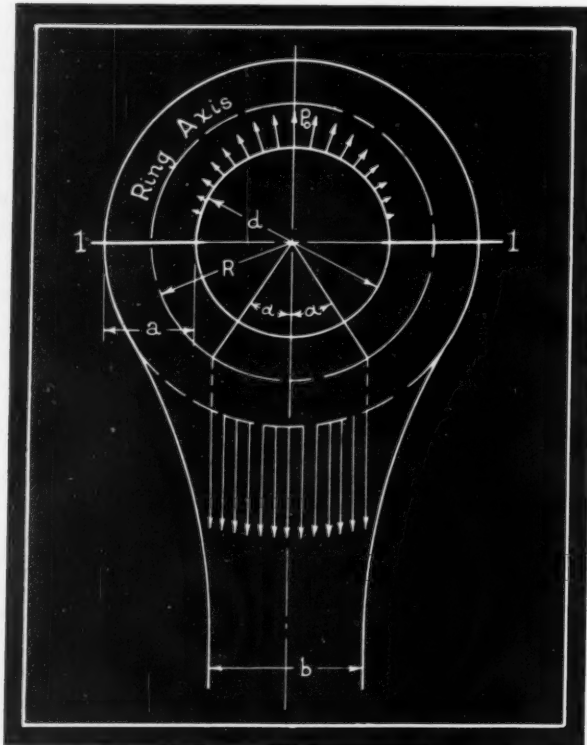

Fig. 2—Eye of rod indicating stresses and symbols. Maximum stress occurs on inside of section 1-1
rod), corresponding to $a/b = .75$ and $d/b = .667$ taken from the curves in Fig. 1 is 2.50. The maximum stress in the eye rod which occurs on the inside of section 1-1 in Fig. 2 therefore, is
- (1) The tensile force P of the rod is to be transferred as a uniformly distributed load within the rod width b to the circular ring-shaped portion which forms the head of the rod. See Fig. 2.
- (2) The force between the pin and eye wall is